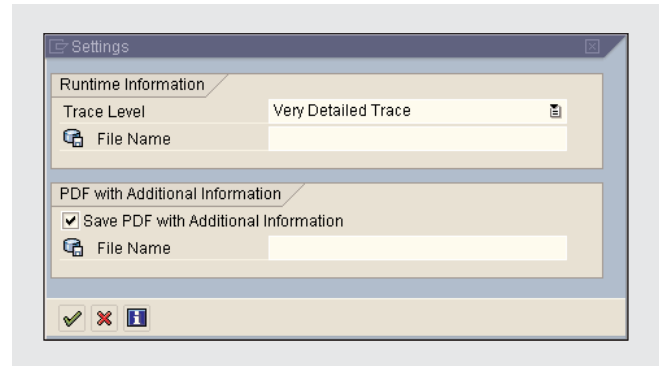

Figure 29 Specifying runtime settings for your print form
- To meet its enterprise readiness and supportability goals, SAP provides extensive logging and tracing capabilities for SAP Interactive Forms, especially its runtime. If you go to the Settings menu on the SFP entry screen, you can select a Very Detailed Trace and save all relevant runtime information (including the form template and the runtime data file) in a PDF generated by ADS (see **Figure 29**).